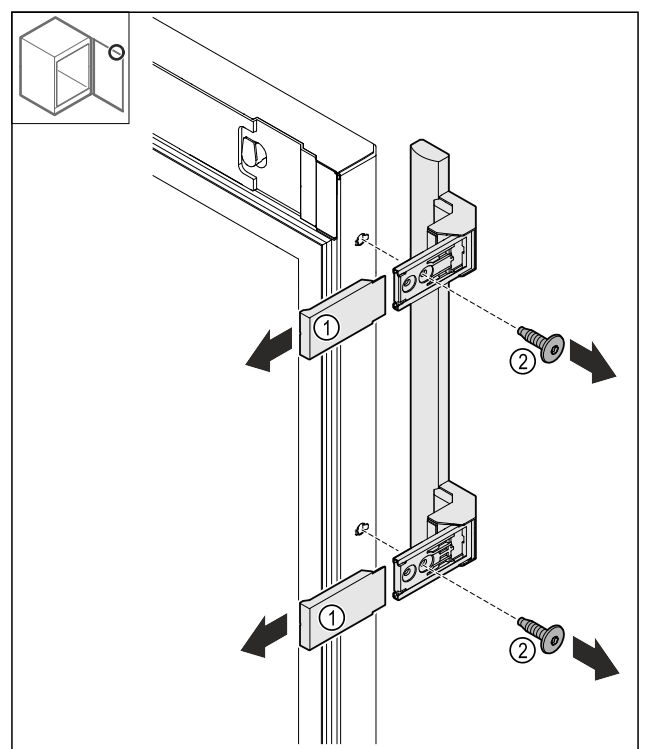

Fig. 24
- Remove the covers Fig. 24 (1).
- Loosen the screws Fig. 24 (2).